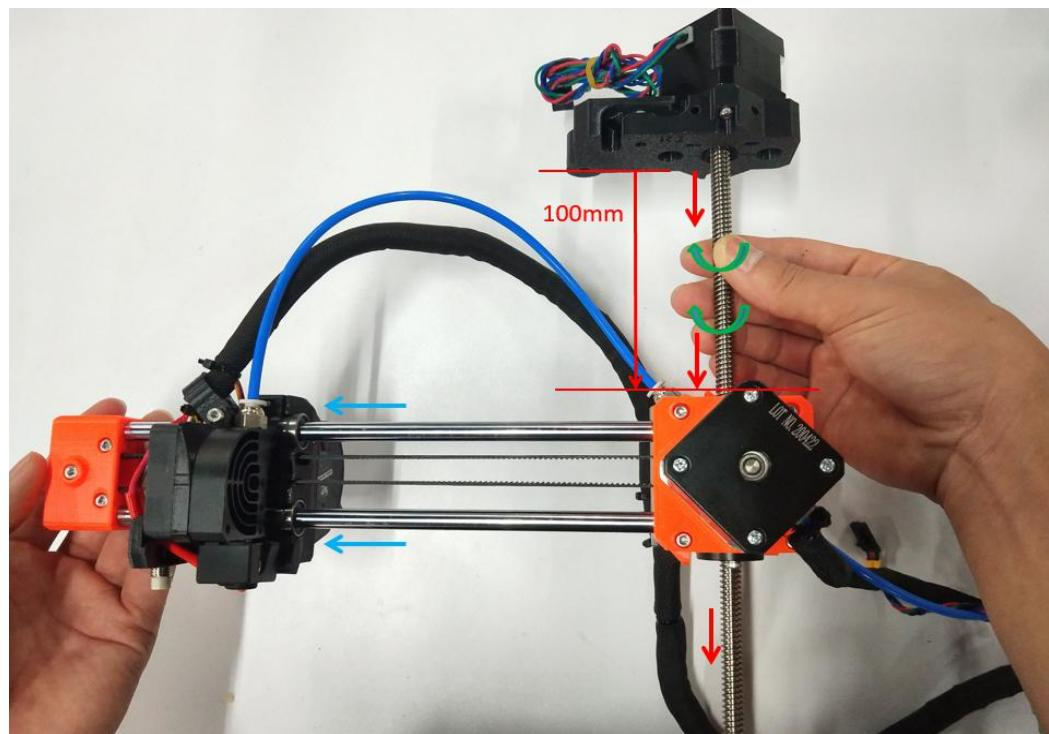

Figure 4.1.2
**Step 4-1-2:** as shown in Figure 4.1.2